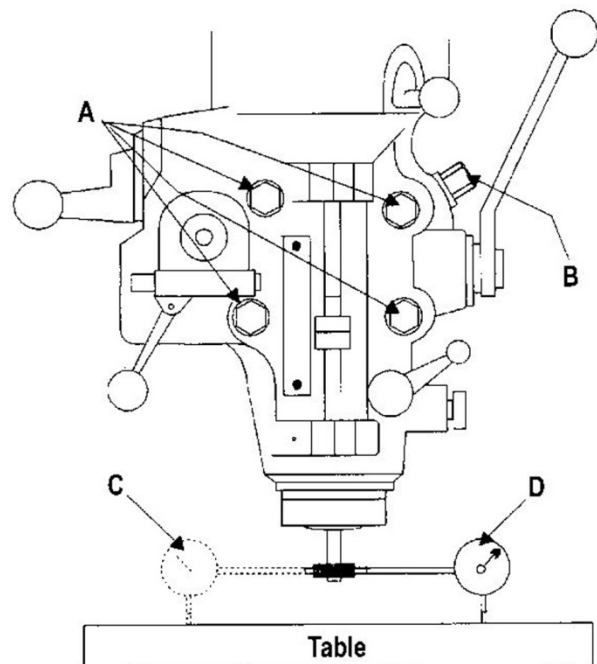

Figure 9
1. Loosen four large hex nuts (A, Figure 9) that secure mill head to ram adapter. One-quarter (1/4) turn should be sufficient to allow head to move.
2. Turn worm nut (B, Figure 9) to tilt head left or right as required. Use scale on ram adapter to establish angle.
5. Set up a dial indicator in a collet (see Figure 9) and secure using drawbar.
- c. Set up a dial indicator in a collet and secure using drawbar (refer to Figure 9).